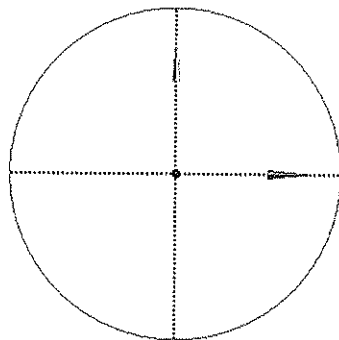

Figure 5-40 Circle created on the ZX plane
24. Choose the **Circle** tool from the **Draw** toolbox and create a circle with origin as the center of the circle, as shown in Figure 5-40.